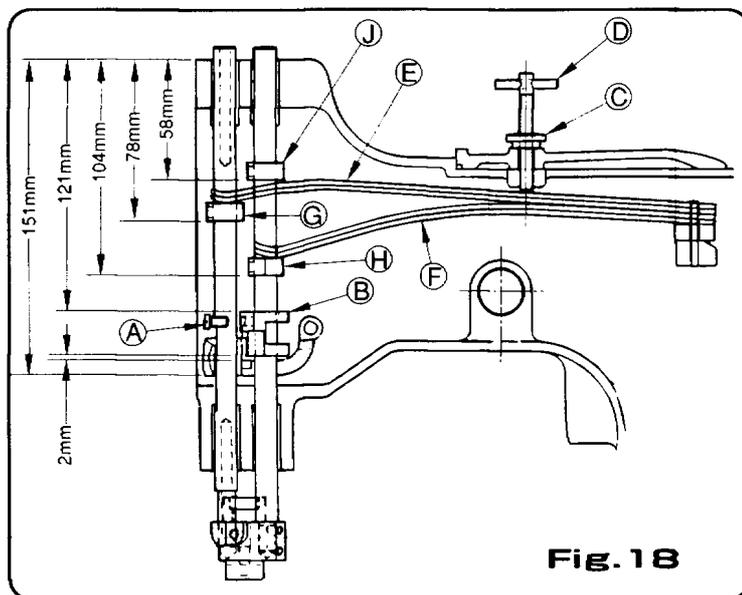
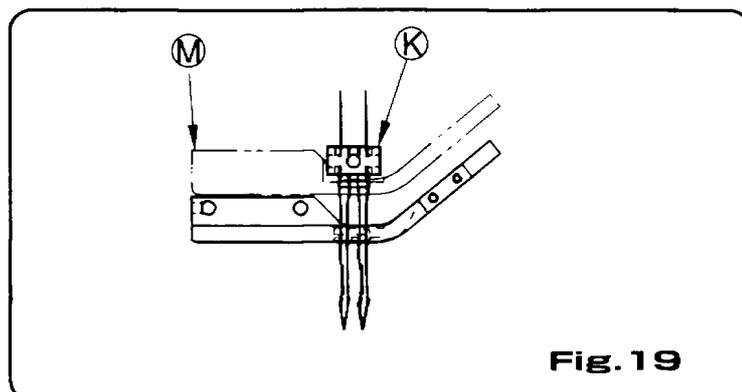

Fig. 18
Fig. 19
- 2) To adjust, loosen the screw (A) and upper the supporting yoke, When the upper feed dog is in the heist position and the presser foot is in the lowest position, or when the presser foot is highest and the upper feed dog is lowest. (Fig.18)
- 2) 上送り金と押エ金の調整は、上送り金最も上で押エ金が一番下の時か、又は押エ金最も上がって上送り金最も下がった時に、Fig.18のネジ(A)を緩めブロックホルダー(B)を上げて下さい。
4-13. Setting Presser Foot Pressure (Fig.18 Fig.19)
- 6) Please refer each distance in the Fig.18 to adjust the collars and holder.
4-13. 押え圧調整 (Fig.18, Fig.19)
- 6) あらかじめFig.18の寸法にてカラー等をセットしておけば調整は容易です。